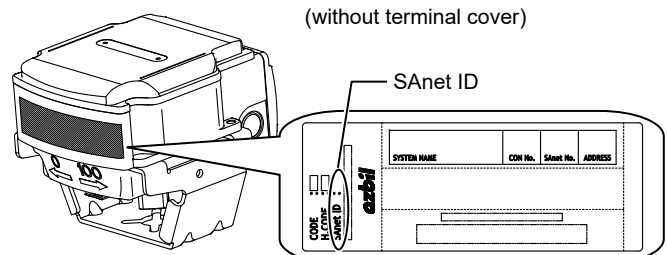

Figure 21. SAnet ID on the product code label
2. With Data Setter or PC-MMI, enter the SAnet ID (on the product code label) and address number to set. The product code label is attached on the side surface of the actuator, as shown in Fig. 21.